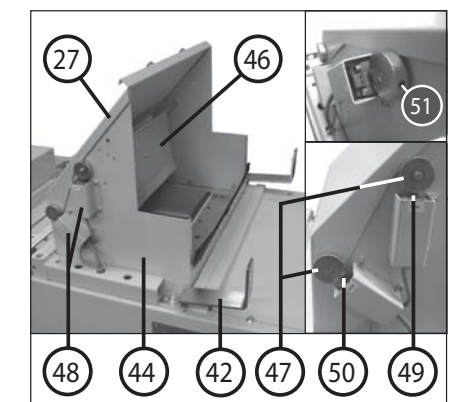

fig. 5
INSTALLATION OF THE HOPPER (44) (fig. 5):
1. Release the transport lock (binder) on the outlet flap (31) and fold the flap down.
2. Take the hopper (44) out of the press compartment, as shown, place over the filler opening and fix to the press from inside with the aid of the 7 hexagon socket screws M6x12.
3. Remove both switch covers (48). Fix the limit switch S8 (49) with 2 screws M4x40 and nuts M4 below the switch cam of the switch flap (47). Undo the threaded pin (51) (Allen key 2.5 mm), turn the cam into position and tighten the threaded pin again. Attention: the switch cam must be turned in such a way that with the switch flap hanging straight down, the switch pin of the switch is situated in the recess of the switch cam.
4. Fix the limit switch S9 (50) with 2 screws M4x40 and nuts M4 under the switch cam of the cover flap (27). Undo the threaded pin (51) (Allen key 2.5mm), turn the cam into position and tighten the threaded pin again. Attention: the switch cam must be turned so that when the cover flap is closed, the switch pin of the switch is situated in the recess of the switch cam.
5. Position the two switch covers (48) over the limit switches and fix each to the hopper with two screws M5x16 and nuts M5.
- 44 = hopper (fig. 5)
- 46 = switch flap (fig. 5)
- 47 = switch cam (fig. 5)
- 48 = switch cover (fig. 5)
- 49 = limit switch S8 (fig. 5)
- 50 = limit switch S9 (fig. 5)
- 51 = threaded pin (fig. 5)